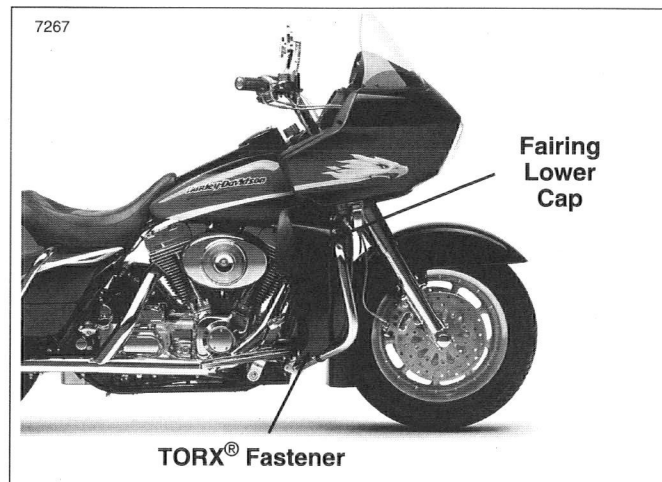
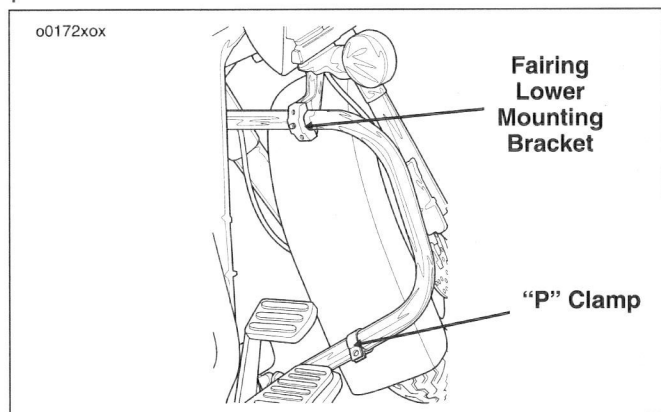

Figure 30. Right Fairing Removal
Figure 31. Right Fairing Lower Mounting
1. See Figure 30. Remove two phillips head fasteners from fairing lower cap on right side of vehicle.
4. See Figure 31. Remove the fairing lower mounting "P" clamp on the bottom of the engine guard.
5. See Figure 31. Remove the aluminium fairing lower mounting bracket from the top of the engine guard.
2. See Figure 30. and Figure 31. Install aluminium fairing lower mounting bracket to the engine guard, using the two fasteners removed in step 1. Tighten fasteners to 36-60 in-lbs (4-7 Nm) torque.